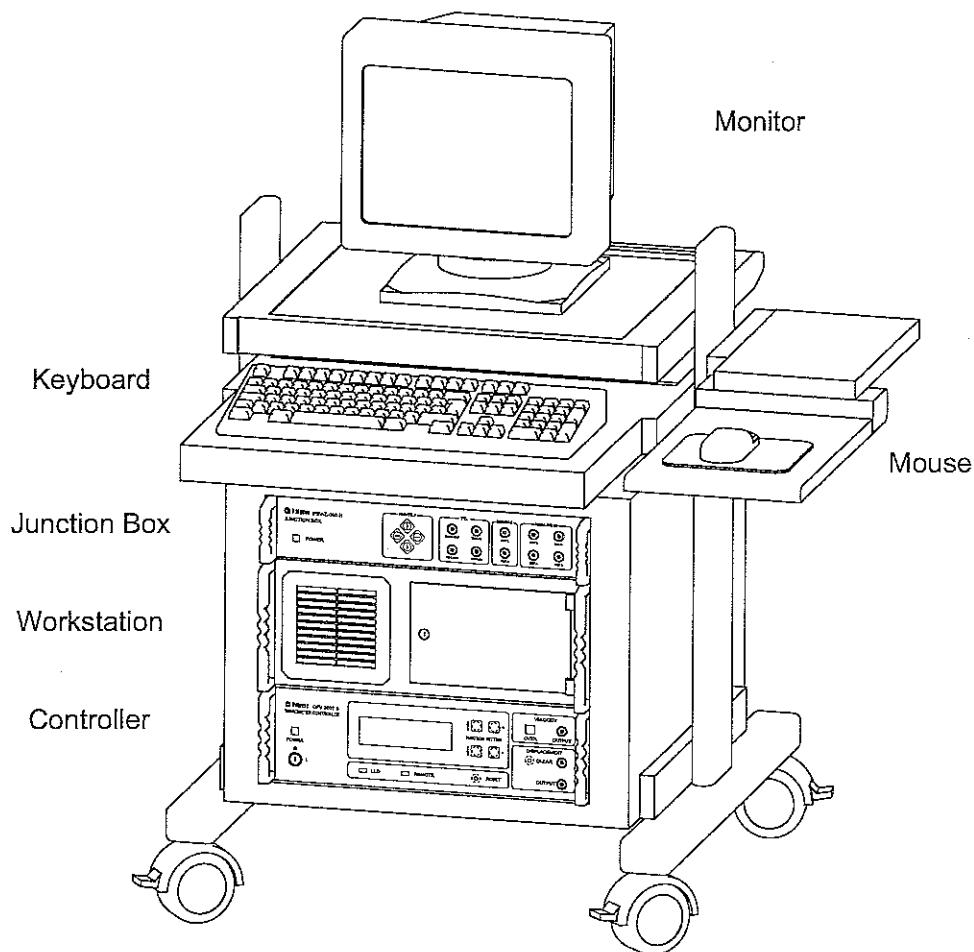

Figure 3.15: Position of the PSV components on the system cabinet
You receive the system cabinet PSV-Z-035 ready assembled. The positions of the individual system components in the cabinet is shown in figure 3.15.
7. Place the other system components as shown in figure 3.15.